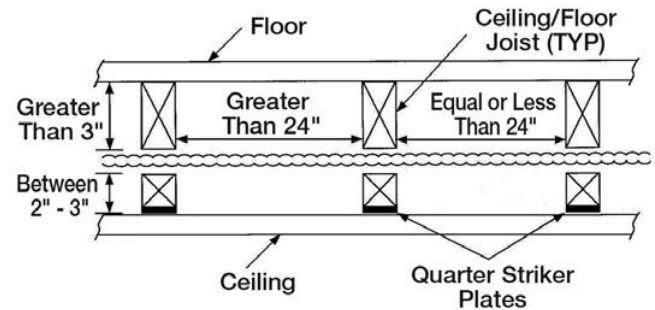

Fig. 4-45
- b) At concealed support points and points of penetration 2 to 3 inches from any edge of a stud, joist plate, etc., listed 1/4" striker plates are required to provide protection throughout the area of penetration (Fig. 4-45).